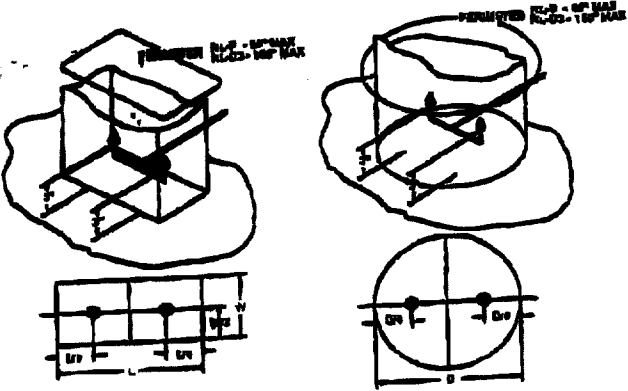

Figure 3-2.1. Dual Nozzle Placement in Duct.
Two (2) Model NL-P exhaust duct nozzles can protect a square or rectangular duct with a maximum perimeter of 84 inches and a maximum one-side length of 34 inches. They can also protect a round duct with a maximum circumference of 84 inches and a maximum diameter of 26.5 inches. When two (2) Model NL-P nozzles are used to protect a single duct, the cross sectional area of the duct must be divided into two equal symmetrical areas. The nozzle must then be installed on the centerline of the area it protects and aimed directly into the duct opening (see Figure 3-2.1).
Two (2) Model NL-D3 exhaust duct nozzles can protect a square or rectangular duct with a maximum perimeter of 150 inches and a maximum one-side length of 66 inches. They can also protect a round duct with a maximum circumference of 150 inches and a maximum diameter of 47.5 inches. When two (2) Model NL-D3 nozzles are used to protect a single duct, the cross sectional area of the duct must be divided into two equal symmetrical areas. The nozzle must then be installed on the centerline of the area it protects and aimed directly into the duct opening (see Figure 3-2.1).